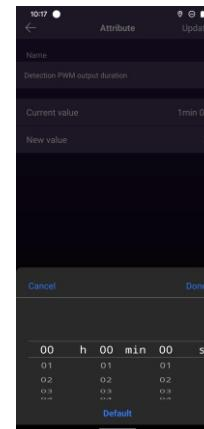

Figure 16
9. The attribute “Detection PWM output duration” is to set the hold time of the configured PWM output of the 0~10V dimming when motion is detected. Tap it to enter setting interface, “Current value” means current hold time, “New value” is to set a new hold time, factory default hold time is 1 minute. Once set a new value, tap “Update” button at upper right corner to save the setting (as shown in **Figure 16**).